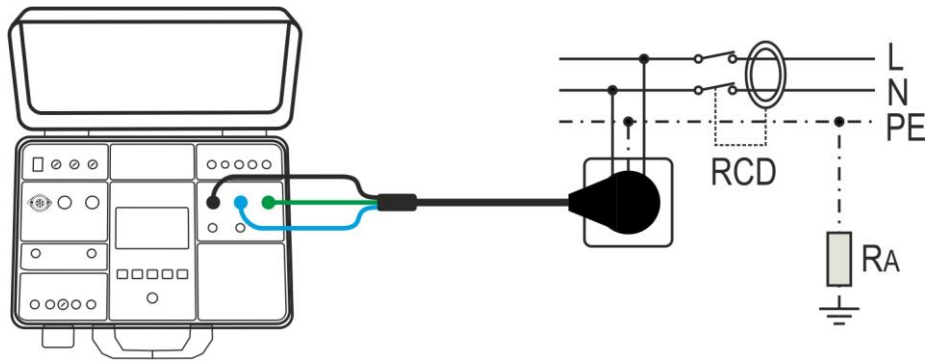
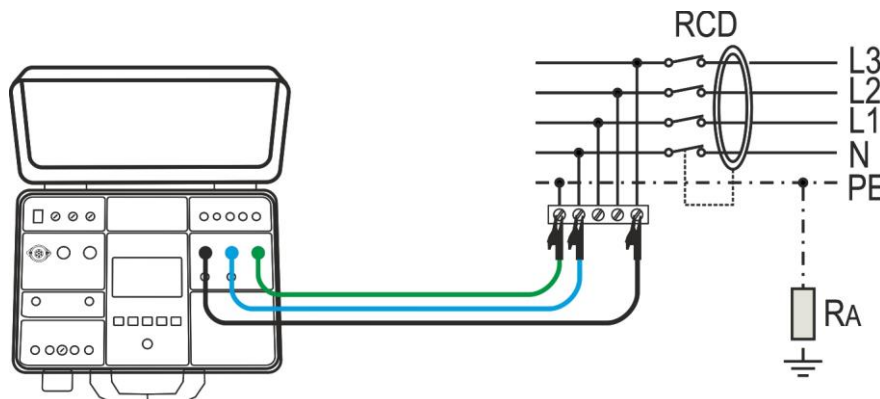

Fig. 42 : Connection of schuko test cable
Fig. 43 : Connection of test leads
6. Check selected polarity and modify it if needed by pressing the **POL** (8) touch-screen key first
8. Connect the test leads or te schuko cable as shown in the followed Fig. 42 or Fig. 43